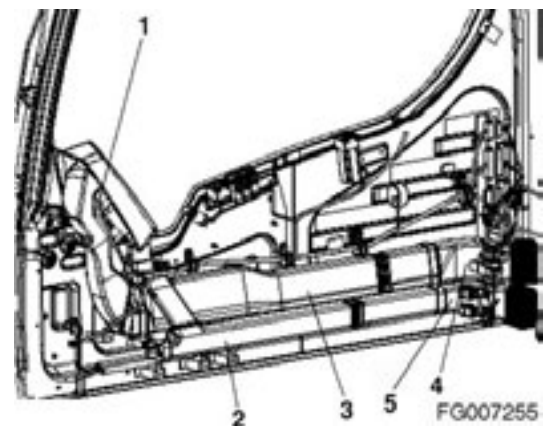

Figure 7
22. Remove air ducts (1, 2, 3, 4 and 5, Figure 7) right side of cabin step by step from the front duct.